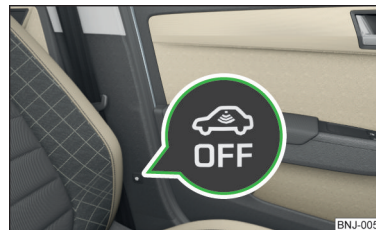

Fig. 49
- Press the  button on the centre column on the driver side » Fig. 49; the  symbol lights up in the button.